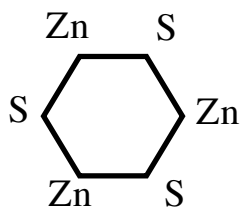

Fig. 1
1. Connect three silver zinc ions to three yellow sulfide ions forming a hexagon. (Fig. 1)